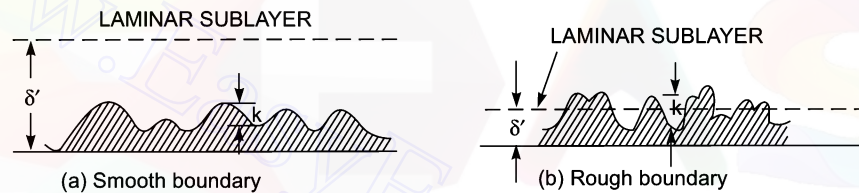

Fig. 10.4 Smooth and rough boundaries.
**10.5.1 Hydrodynamically Smooth and Rough Boundaries.** Let  $k$  is the average height of the irregularities projecting from the surface of a boundary as shown in Fig. 10.4. If the value of  $k$  is large for a boundary then the boundary is called rough boundary and if the value of  $k$  is less, then boundary is known as smooth boundary, in general. This is the classification of rough and smooth boundary based on boundary characteristics. But for proper classification, the flow and fluid characteristics are also to be considered.
If the average height  $k$  of the irregularities, projecting from the surface of a boundary is much less than  $\delta'$ , the thickness of laminar sub-layer as shown in Fig. 10.4 (a), the boundary is called smooth boundary. This is because, outside the laminar sub-layer the flow is turbulent and eddies of various size present in turbulent flow try to penetrate the laminar sub-layer and reach the surface of the boundary. But due to great thickness of laminar sub-layer the eddies are unable to reach the surface irregularities and hence the boundary behaves as a smooth boundary. This type of boundary is called hydrodynamically smooth boundary.
Now, if the Reynolds number of the flow is increased then the thickness of laminar sub-layer will decrease. If the thickness of laminar sub-layer becomes much smaller than the average height  $k$  of irregularities of the surface as shown in Fig. 10.4 (b), the boundary will act as rough boundary. This is because the irregularities of the surface are above the laminar sub-layer and the eddies present in turbulent zone will come in contact with the irregularities of the surface and lot of energy will be lost. Such a boundary is called hydrodynamically rough boundary.
For the smooth boundary, there exists a laminar sub-layer as shown in Fig. 10.4 (a). The velocity distribution in the laminar sub-layer is parabolic in nature. Thus in the laminar sub-layer, logarithmic velocity distribution does not hold good. Thus it can be assumed that  $y'$  is proportional to  $\delta'$ , where  $\delta'$  is the thickness of laminar sub-layer. From Nikuradse's experiment the value of  $y'$  is given as
**10.5.3 Velocity Distribution for Turbulent Flow in Rough Pipes.** In case of rough boundaries, the thickness of laminar sub-layer is very small as shown in Fig. 10.4 (b). The surface irregularities are above the laminar sub-layer and hence the laminar sub-layer is completely destroyed. Thus  $y'$  can be considered proportional to the height of protrusions  $k$ . Nikuradse's experiment shows the value of  $y'$  for pipes coated with uniform sand (rough pipes) as  $y' = \frac{k}{30}$ .